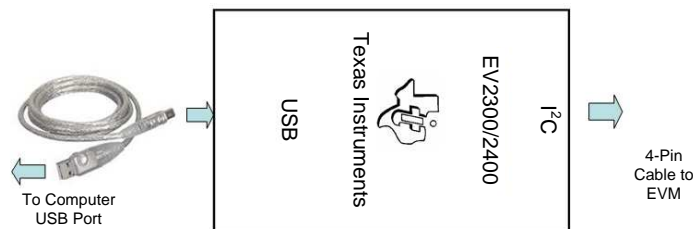

Figure 2. Connections of EV2300/2400
- Connect the EV2300/2400 USB interface board to the computer with a USB cable and from the I²C port to J8 with the 4-pin cable. The connections are shown in Figure 2.